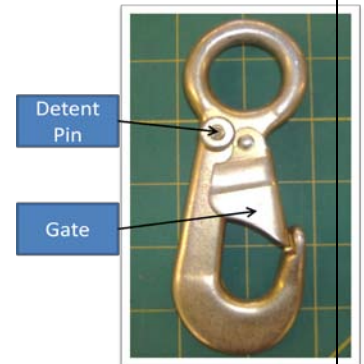

Figure 3.2
- E. A Bourdon 1210 is a captive eye locking snaphook and the final piece of connecting hardware to the rappel harness. The tri link is trapped within the captive eye of the hook connecting it to the harness (figure 3.2). It is the snaphook that attaches the rappel harness to the descent device.